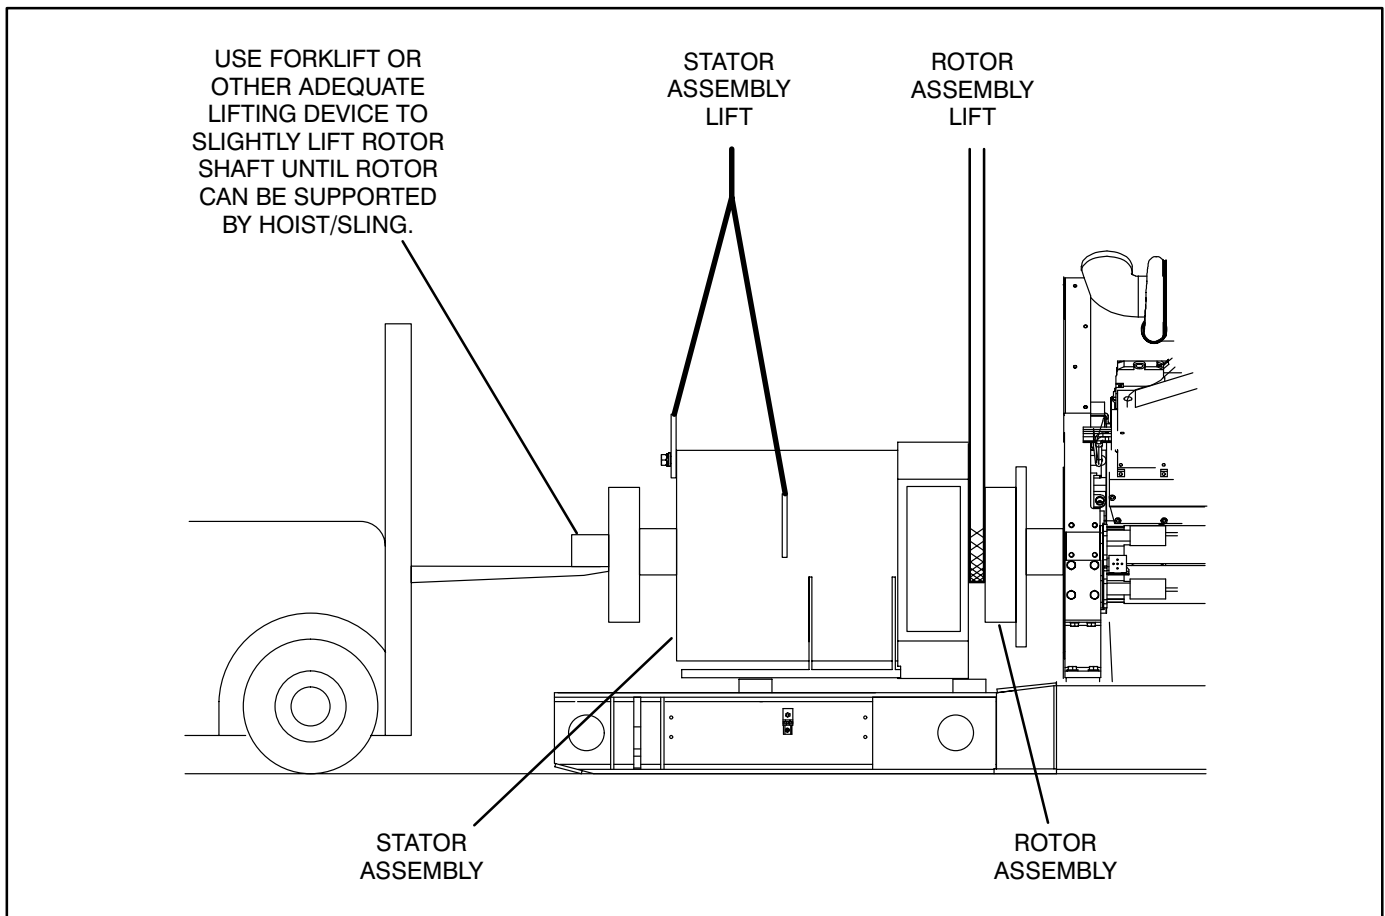

FIGURE 4-9. REMOVING STATOR ASSEMBLY (FRAME 7)
25. Using a forklift, position a lifting bar of the forklift (inside and inline with the generator) under the rotor shaft. Lift the rotor shaft slightly so that rotor is not resting on inside of stator assembly. See Figure 4-9.